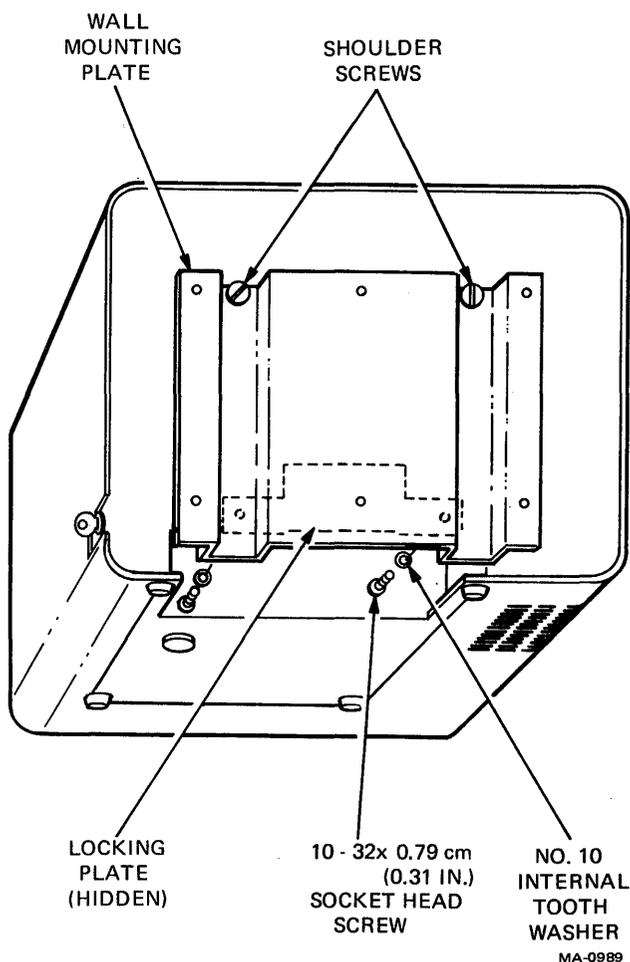

Figure 2-1 Wall-Mounting Hardware Details
3. Remove two 10-32 by 0.31 inch long socket head screws (Figure 2-1) and no. 10 internal tooth lockwashers securing wall mounting plate to terminal (via locking plate).